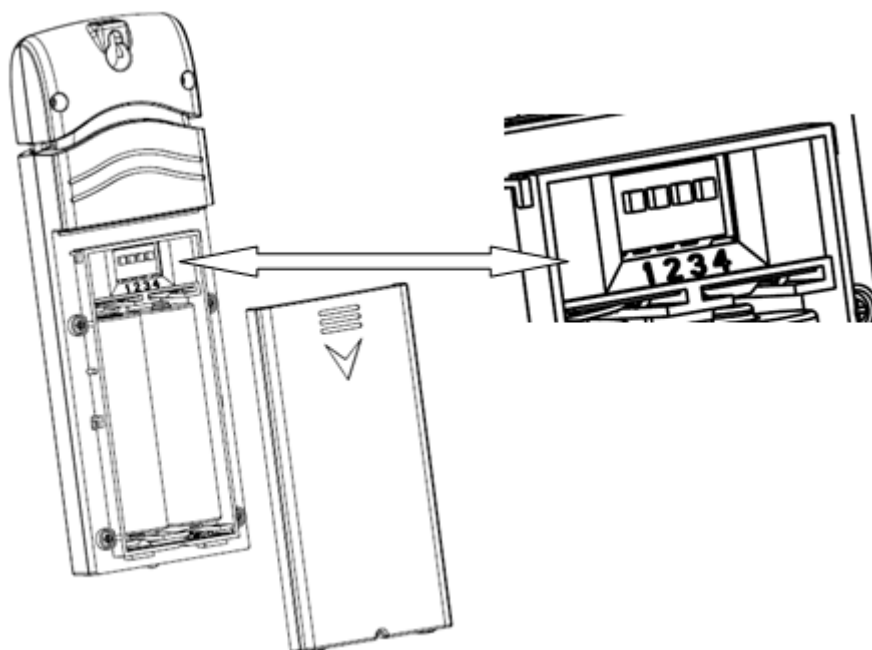

Figure 6
1. Remove the battery door on the back of the transmitter(s) by sliding down the battery door, as shown in Figure 6 .